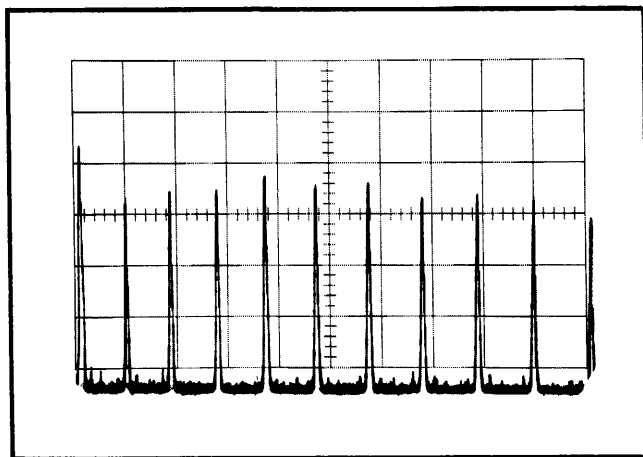

Fig. 5-5. Display for Dispersion Linearity check (Step 12).
c. At each DISPERSION/CM setting of Table 5-3, readjust the DISP CAL adjustment to align the correct markers with the first and ninth graticule lines (see Fig. 5-5). (The IF CENTER FREQ controls may be moved slightly away from center to position a marker at the first graticule line.)